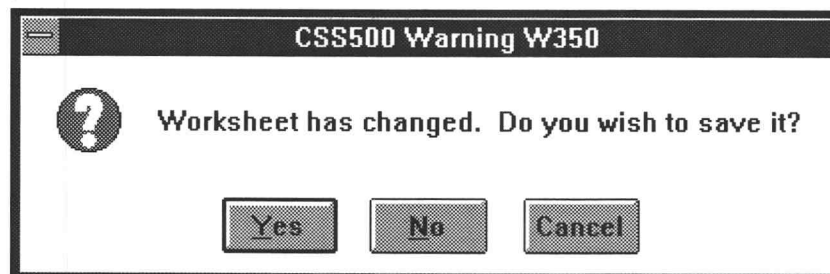

Figure 5-8. The Warning that you have changed the worksheet by changing the Channel Table.
3. Choose OK to save the changes and exit the dialog box. The Warning in Figure 5-8 may appear if there are measurements in the current worksheet. This is to remind you that you are creating a new worksheet whenever you change the Channel Table. (Only one Channel Table is allowed in each worksheet.)